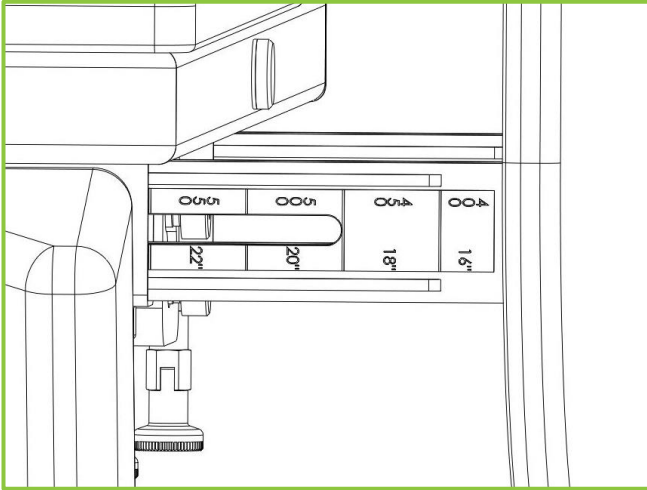

Figure 12
6. With two hands, pull or push the sidepiece until the desired measurement is achieved. The measurement can be read just inside the sidepiece at the front between the seat and the sidepiece (See Fig 12).